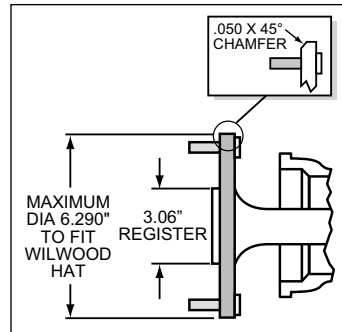

Figure 2. Axle Flange Maximum Dimension
- Maximum axle flange diameter must be no larger than 6.29" with a .050" x 45° chamfer (see Figure 2).